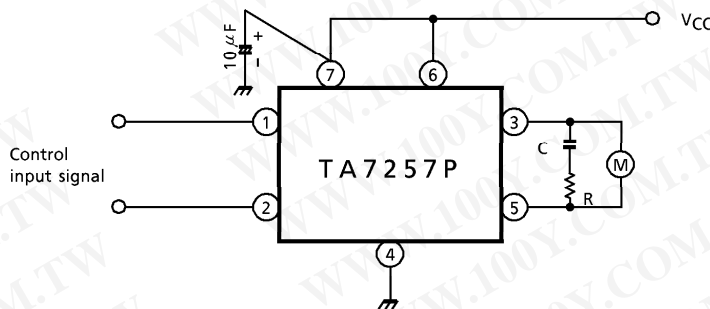
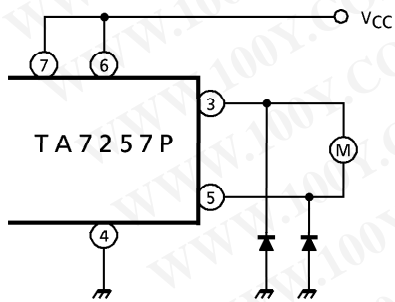

Fig.2
Fig.3
- (Note 1) Fig.2 shows the basic application circuit. Optimum values of the C, R depend on the inherent constant of a motor and parasitic C, R values around the circuit. Normally, recommended to use $0.1 \mu F$ and 33Ω .
(3) Additional diode
- i) If the braking operation is so loose, connect a additional diode between each output to GND, (See Fig.3)